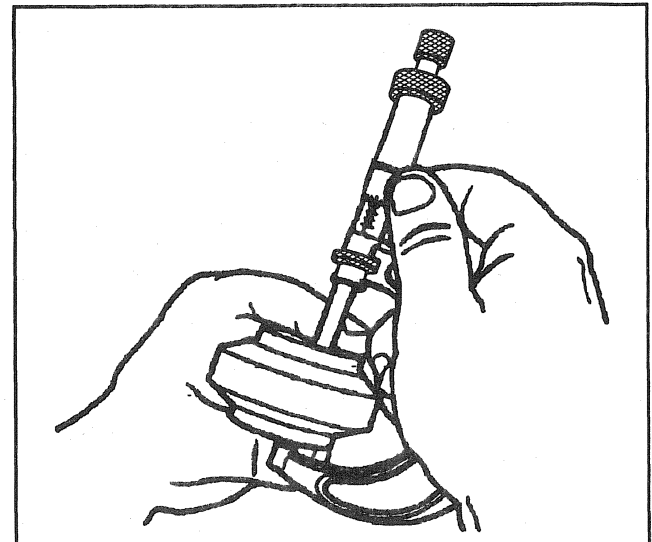

Figure 17—Measuring the Reaction Block
- 3. The thickness of the original reaction blocks and reaction block thrust washers together (Figure 17).